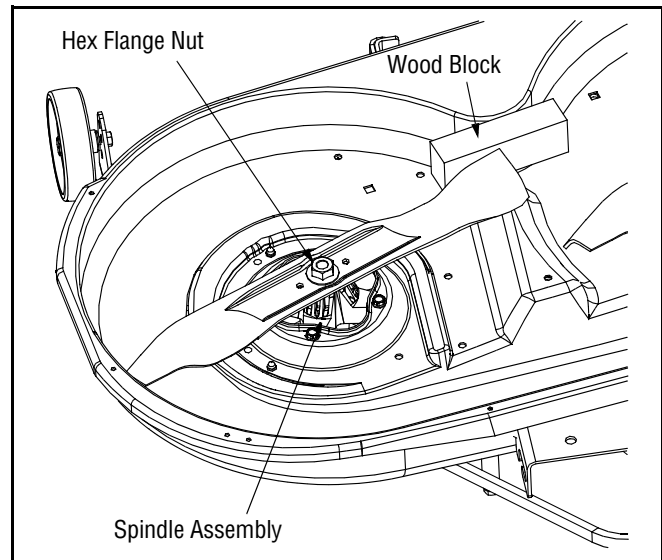

Figure 18
- Place a block of wood between the center deck housing baffle and the cutting blade to act as a stabilizer. See Figure 18.
- Use a 1-1/8" wrench to remove the hex flange nut that secures the blade to the spindle assembly. See Figure 18.